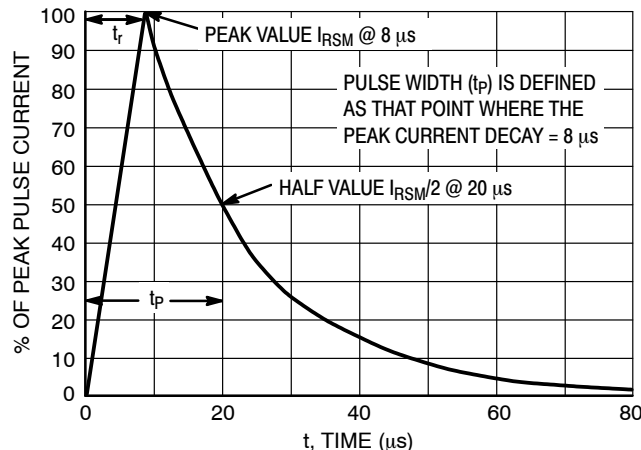

Figure 5. 8 x 20 μ s Pulse Waveform
1. Surge current waveform per Figure 5.